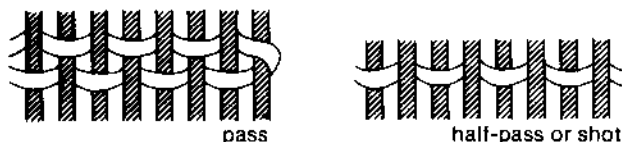

FIGURE 1
(1) PASS—The movement of weft threads through the warp in a round trip. See Fig. 1.